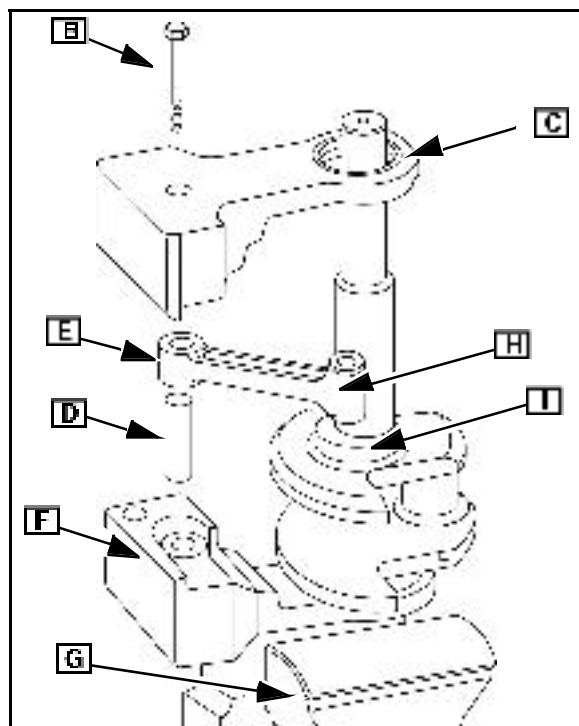

Fig. 19
Refer to Fig. 19.
1. Slide magneto side counterweight (F) on to crankshaft.
2. Place crankshaft and counterweight in a vise (G). Use soft vise jaws or shop rags to protect magneto journal.
3. Slip link (E) over dowel pin (D) with rounded edge of free end (H) up.
4. Slide PTO side counterweight (C) on to dowel pin and crankshaft eccentric (I).
5. Install screw ([B] Fig. 19). Torque to listed value.